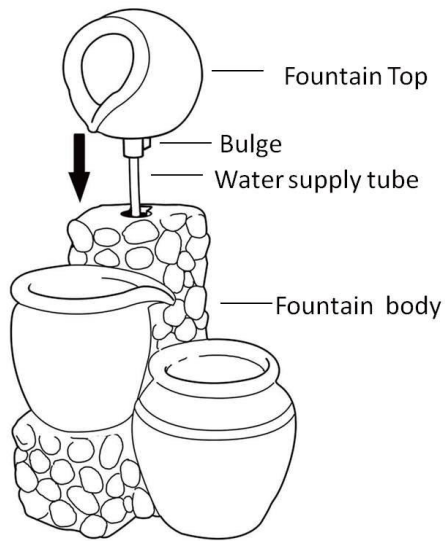

Fig. 1
3. Place the fountain body onto the ground and ensure that it is level. Position the fountain top over the fountain body and lead the water supply tube which is located under the fountain top through the pipe which is on the top of fountain body. Align and attach the fountain top to fountain body, make sure the water outlet is facing away from the pots of the fountain body and insert the fountain top into the fountain body until the pieces are secured together. (Fig1)